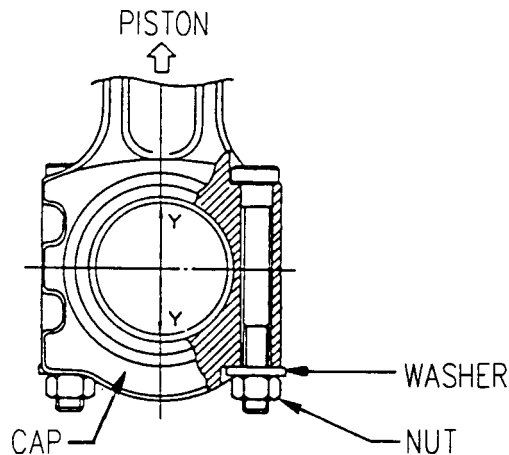

Figure 5-26. Measuring Large End Hole Diameter
- 2) Large end hole (Figure 5-26) - 1.1814 - 1.1846 in. (30.007 - 30.09 mm).